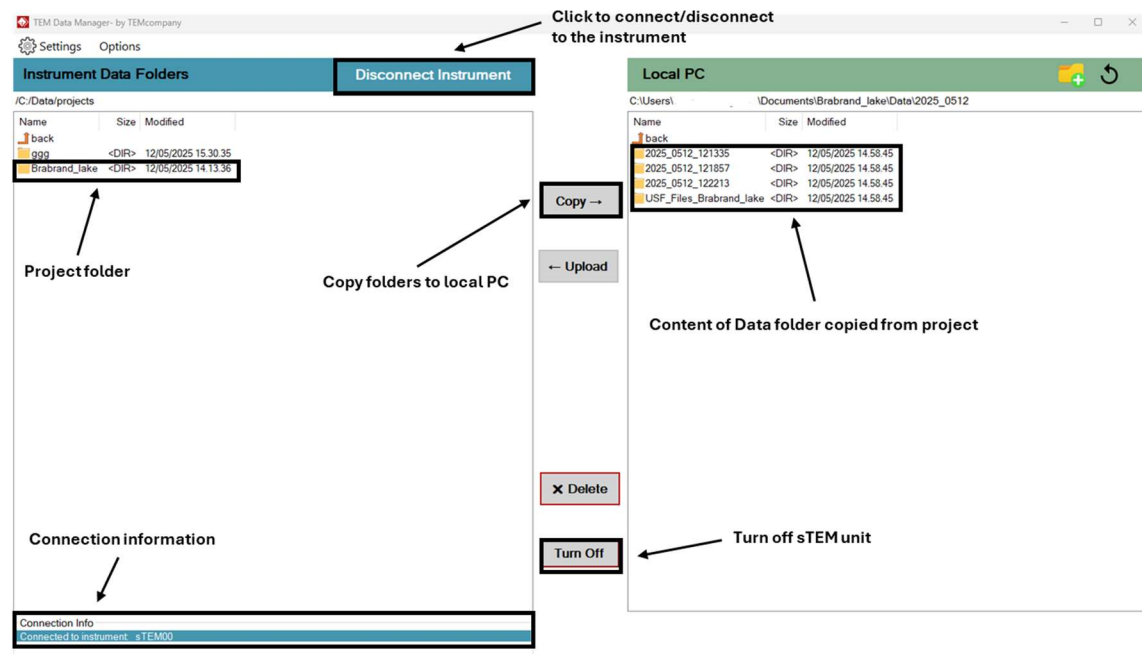

Figure 19. Steps for copying data from sTEM unit to Local PC (after connecting to the instrument).
- Press *Connect to Instrument* to display the data folders on the sTEM unit (Figure 19).
- Data from a station is placed in sub-folders with a data-time name (yyyy_mmdd_hhmmss) and should contain one stb-file and one stn-file (Figure 19).